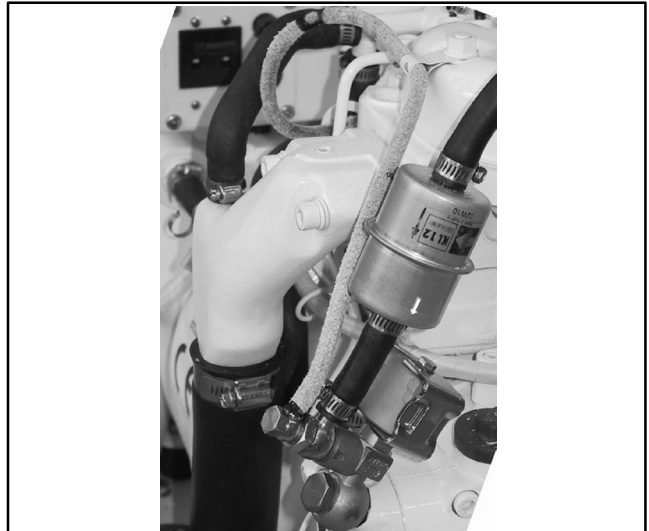

Figure 5-4 Fuel Filter Arrow
6. Replace the fuel filter with the arrow on the fuel filter housing indicating the direction of fuel flow. See Figure 5-4.